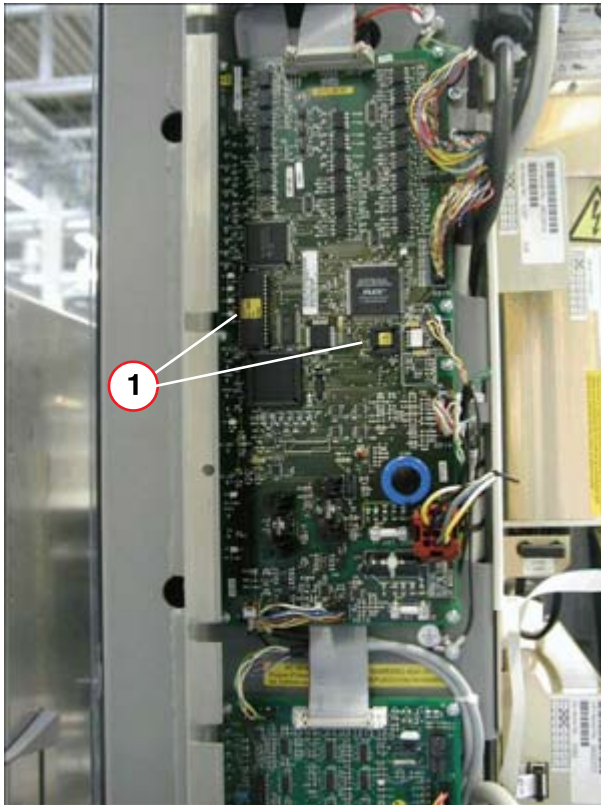

Fig. 14: D801
- Move prom J9 and J65 from the old to the new Board (1/ Fig. 14 / p. 39).